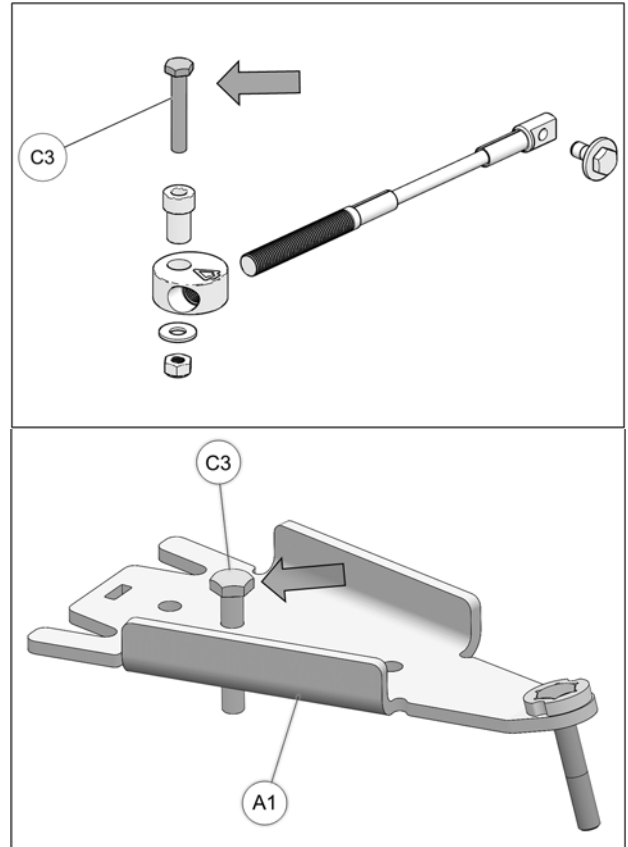

Fig. 17
5. Remove M10 bolt (C3) from steering limiter cable parts kit and insert bolt in front anchor bracket hole as shown in Fig. 17